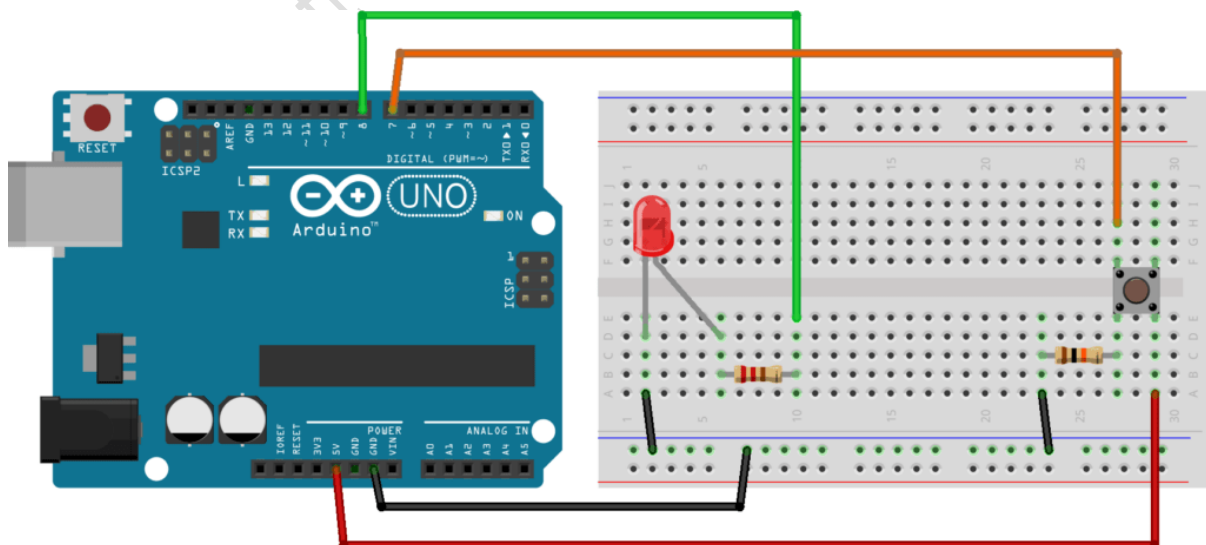

Fig.1: Circuit Connection Diagram
- Connect the 10 k Ω resistor between push button and GND (Fig.1).